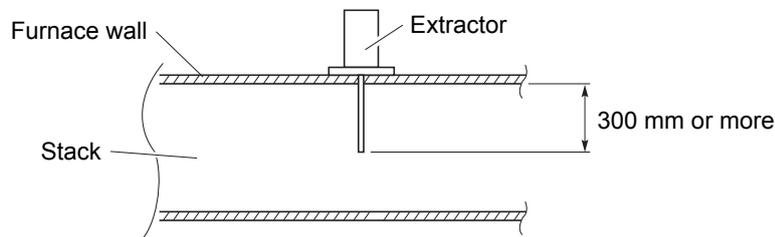

Fig. 1-6 Position of sampling tube
- (3) Install the extractor so that the tip of sampling tube is located at the center of stack (separated 300 mm or more from the wall). A provision should be made to prevent aspiration of leak air as shown in Fig. 1-6. For high temperature device, install so that SUS protective tubes are not placed in the high temperature furnace. (see Fig. 1-4.)
- (4) Position the supplied packing under the flange beforehand.